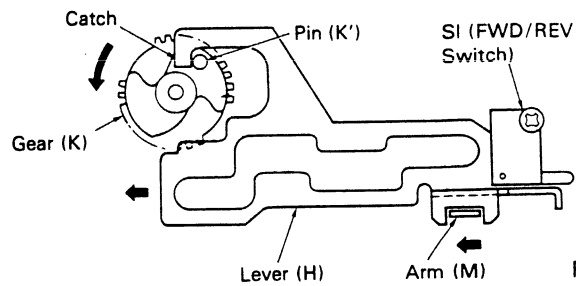

Fig. 38
2. As gear (K) turns (Figure 38) pin (K') pushes the catch on lever (H) in the direction indicated by the arrow.
3. As lever (H) moves, the FWD/REV switch is moved from the "REV" position to the "FWD" position. In addition, arm (M) moves in the direction indicated by the arrow, causing the head unit to change from REV to FWD (this action is the opposite of the action described at Paragraphs 6 and 7 of the section entitled "Mechanism for Switching from FWD to REV").